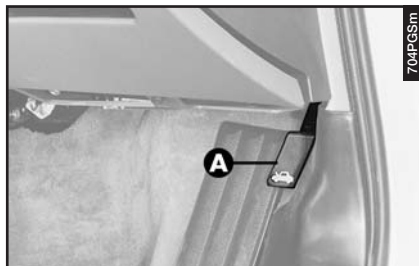

fig. 8
- Pull the lever (**A**-fig. 8) until the bonnet clicks open.